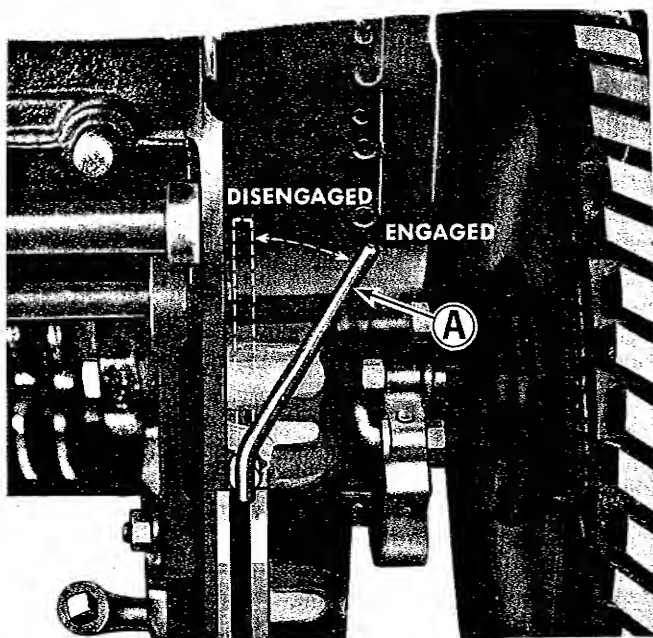

Figure 5. Gear shift disconnect lever.
To move the tractor **FORWARD** grip the control lever squeezing the lock release lever toward the knob and move the control lever forward. The gear shift lever (Figure 5, item A) must also be in the drive position for the tractor to operate. The farther forward from neutral the control lever is pushed, the faster the tractor will move forward at a given engine speed. To slow or stop the tractor when it is moving forward, squeeze the lock release lever toward the knob and pull the control lever rearward slowly toward the neutral position. You can place the hydrostatic transmission in neutral from the forward position without watching it by slightly pushing to the right on the control lever as it is moved rearward. The control lever will stop against the notched portion of the guide when it reaches neutral.
**GEAR SHIFT LEVER:** (Figure 5, item A) The gear shift lever located at the rear of tractors equipped with the hydrostatic transmission is used to disengage the transmission from the rear axle. With the lever in the **NEUTRAL** position, the tractor may be moved without engine power. To engage, move the lever to the right, as shown in Figure 5. Disengage the shift lever by pushing the shift lever to the left as shown in Figure 5.